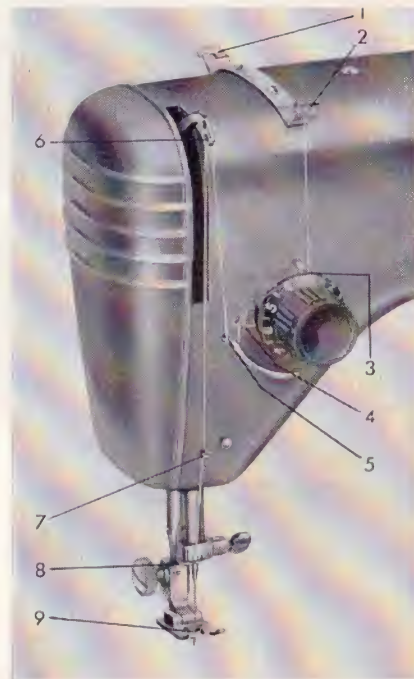

Fig. 12.
Bring the thread take-up lever (6, Fig. 12) to its highest position by turning the hand wheel towards you. Put a spool of thread on one of the spool pins (39, Fig. 2).
Pass thread through the thread guides (1 and 2, Fig. 12), then round from right to left between the innermost tension discs (3), over the crotch of the thread take-up spring (4), under the slack thread regulator (5) and up through one of the eyes in the thread take-up lever (6). From the take-up lever take the thread down through thread guide (7) and the guide on the needle clamp (8) and thread it through the needle point, pulling out 3 or 4 inches behind.
The tension of the upper thread is regulated by the pressure of the tension discs (3, Fig. 12) against each other. This pressure is adjusted by means of a knob calibrated from 0 to 9 with 0 as lowest